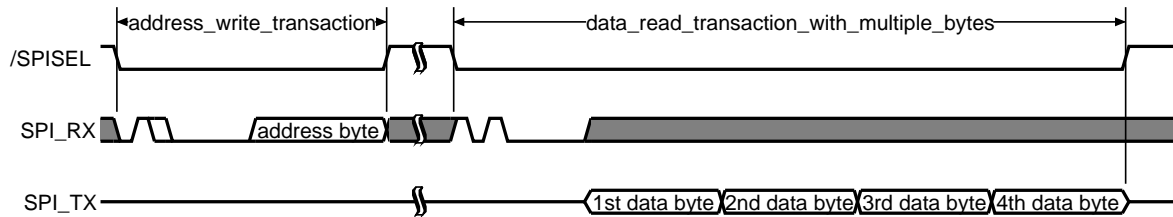

Figure 2.19: Register read access with a 40 bit transaction
3. Another way of reading multiple bytes from the same register is available with the 40 bit read transaction (Figure 2.19). With the first transaction (16 bits) the SPI master specifies the register address (control byte is '01X0 CCCC'). Afterwards, four register values are transferred from XHFC-2S4U/4SU to the SPI master (control byte is '1010 0000').